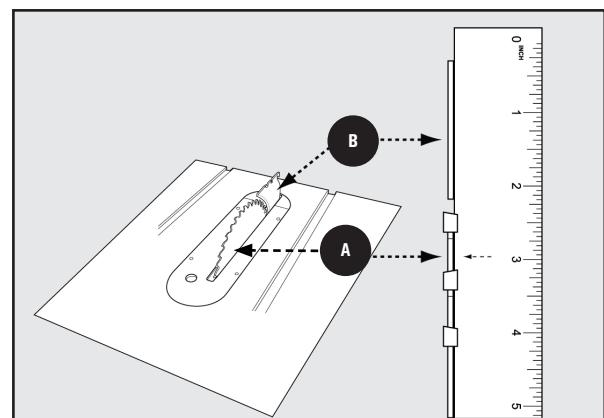

Figure 39
- Horizontal Alignment:** Lay a straight edge on the table against blade face **A** and make sure it extends out along the riving knife **B**, see Figure 39. The riving knife should just touch the straight edge. Be sure the straight edge goes between the teeth and rests on the blade face and the riving knife for proper alignment.